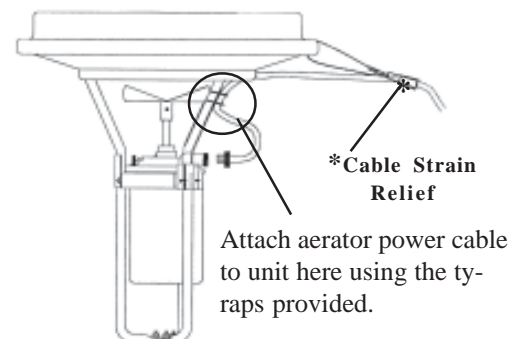

Figure 2
D. Install the cable strain relief device. Pass the wire hoop through one of the holes in the float and around the aerator power cable. Re-attach the cable strain relief --see Figure 2. The splice must be on the aerator side of the cable strain relief.